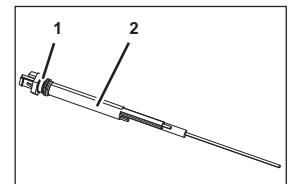

Fig. 78
4. Check the O-ring (Fig. 78/1) of the level electrode (Fig. 78/2) for damage. Replace any damaged O-rings (Fig. 78/1).